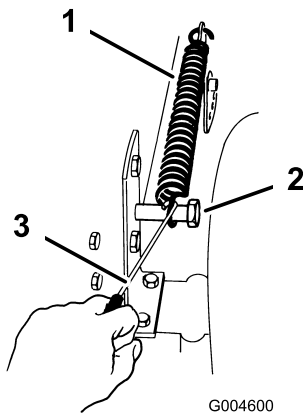

Figure 36
9. Remove the height-of-cut lift assist spring from the retaining bolt (Figure 36), using the spring tool provided with the tractor.
19. Hook the height-of-cut lift assist spring onto the retaining bolt (Figure 36) using the spring tool provided with the tractor.